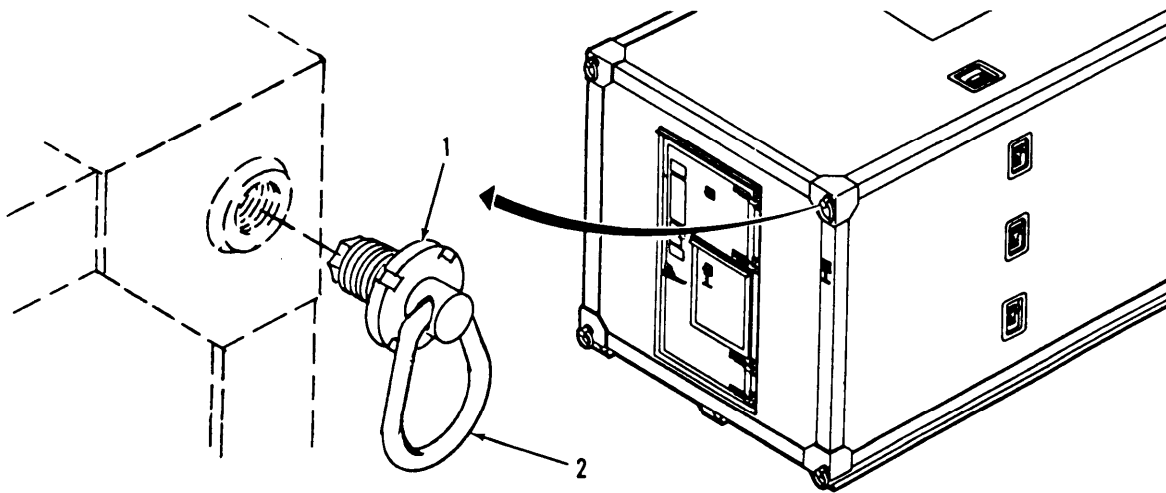

Figure 3-29. Lifting and Tiedown Eye Assembly Replacement.
a. *Inspect.* (Figure 3-29)
- (1) Inspect for free movement and secure mounting,
- (2) Inspect for cracks or other external damage.